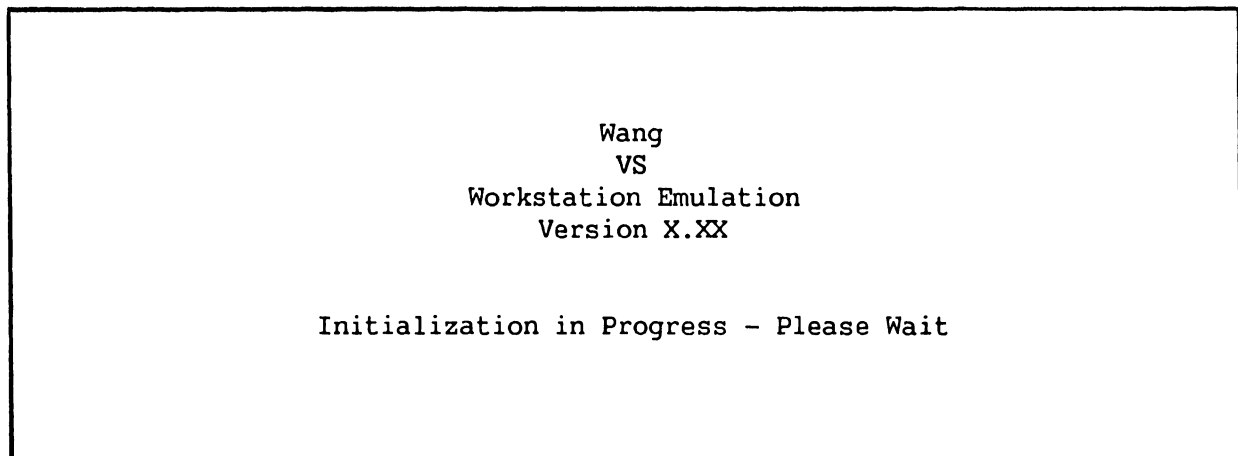

Figure 9-16. Workstation Initialization Screen
13. The Workstation Initialization Screen, figure 9-16, appears.